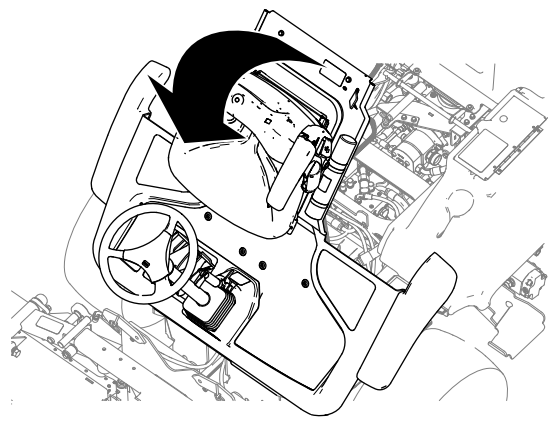

Figure 2
2. Raise the platform (Figure 2).